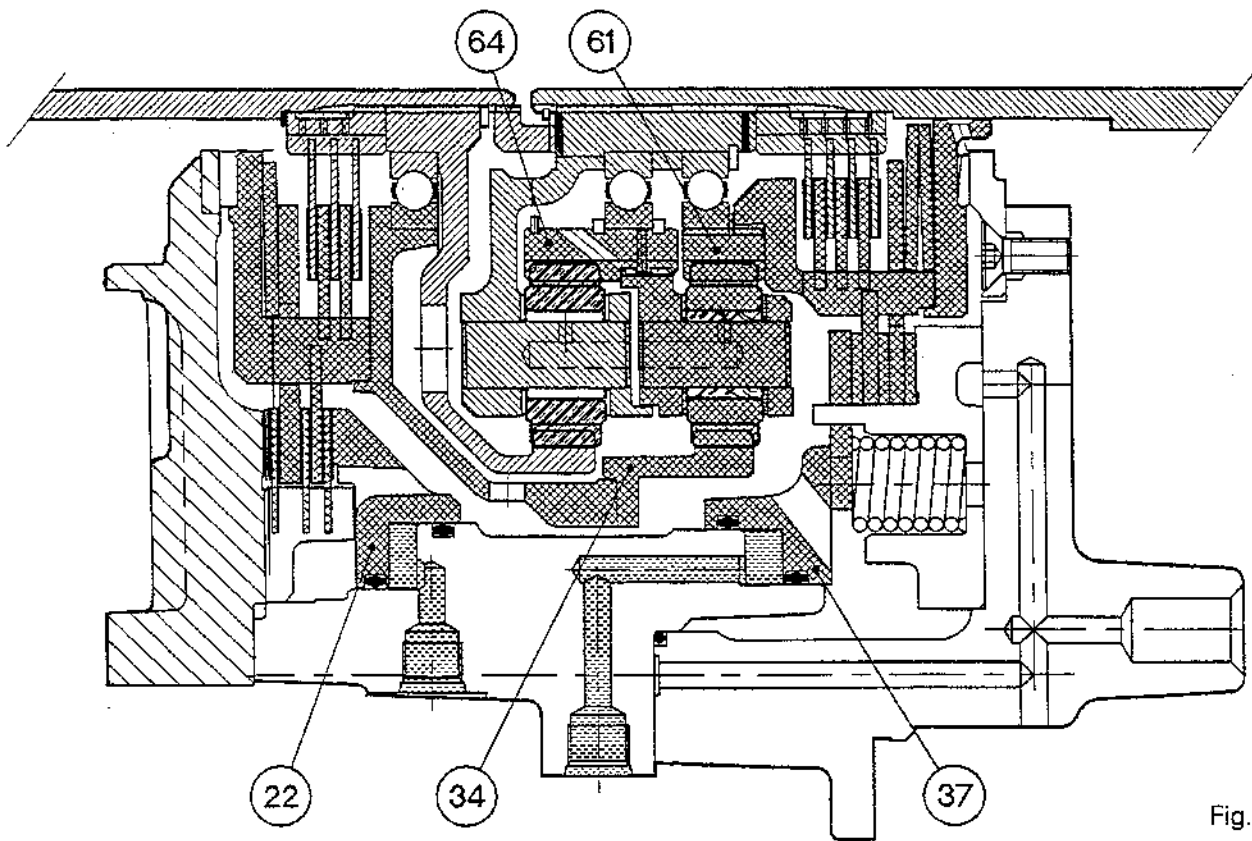

Fig. 3
34. Sling the wheel hub **(22)**. Remove the hub and the ring gear carrier **(42)** then the ring gear **(44)** using puller 3378 038 M1 (Fig.3) and the sleeve used for this type of front axle.